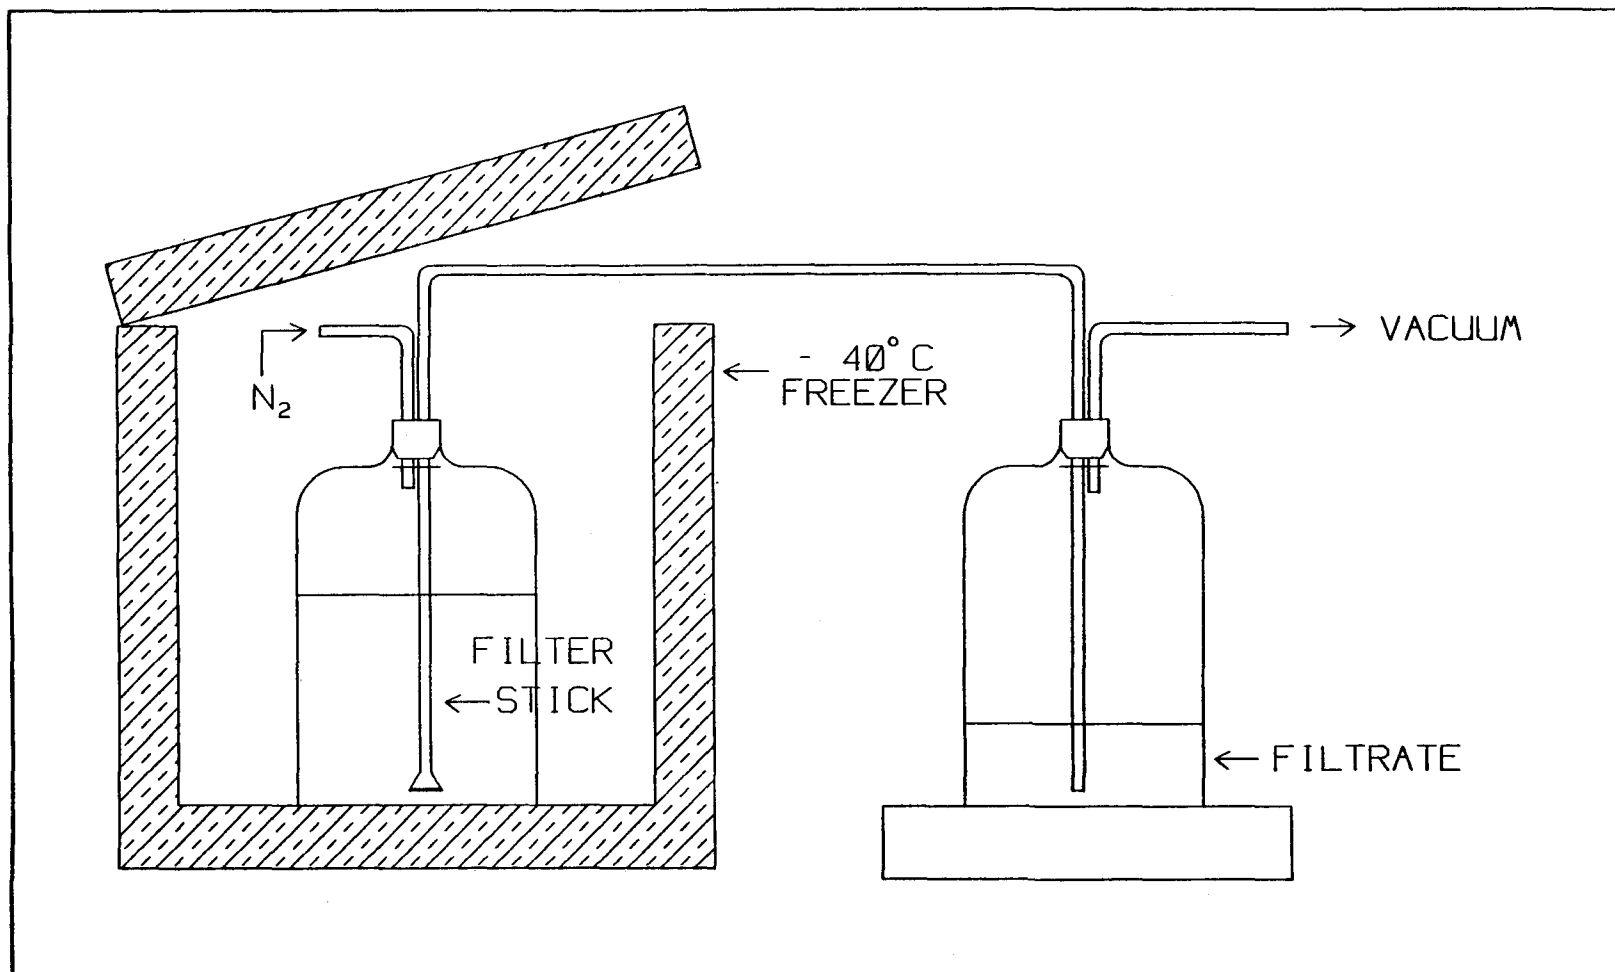

Fig. 9. Filtration of crude concentrates.
12. Filter the crude concentrates, using a filter-stick and moderate vacuum (Fig. 9), into a clean dry bottle and store in the walk-in cooler overnight, if necessary.